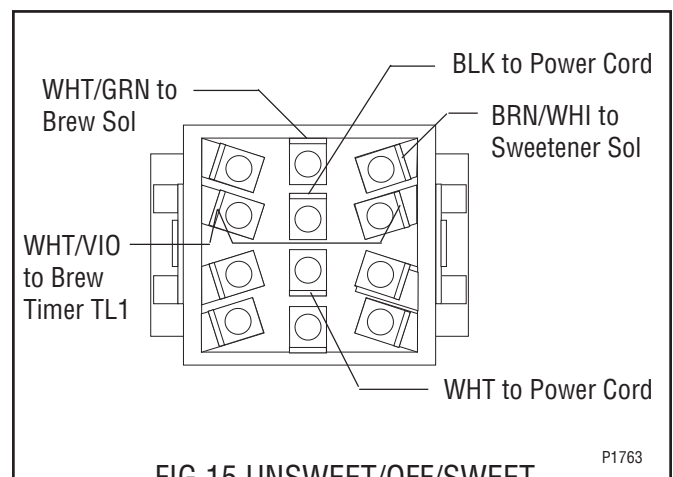

FIG. 15 UNSWEET/OFF/SWEET SWITCH TERMINALS
4. Refer to FIG. 15 when reconnecting the wires.